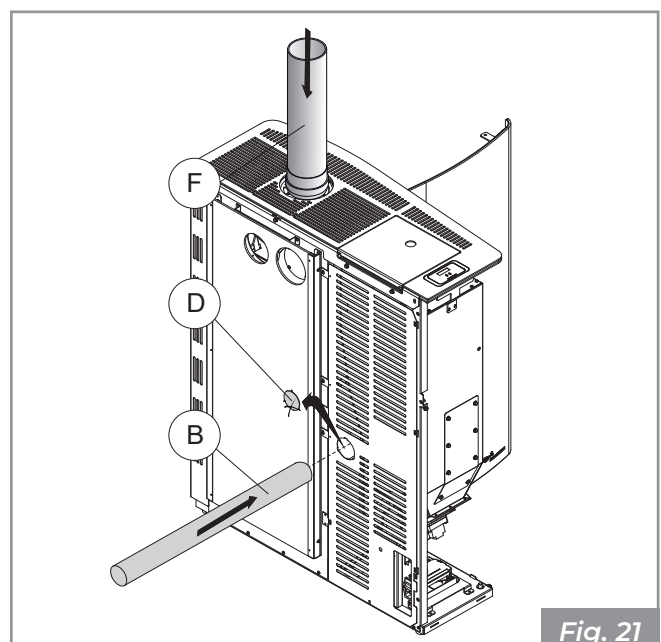

Fig. 21
- Remove the pre-cut sheet metal (**D**) from the back plate. Connect the combustion air hose (**B**) to the 90° bend, passing it through the free hole in the back plate and then connecting it to an external air intake. Connect the smoke outlet pipe (**F** - **Fig. 21**).